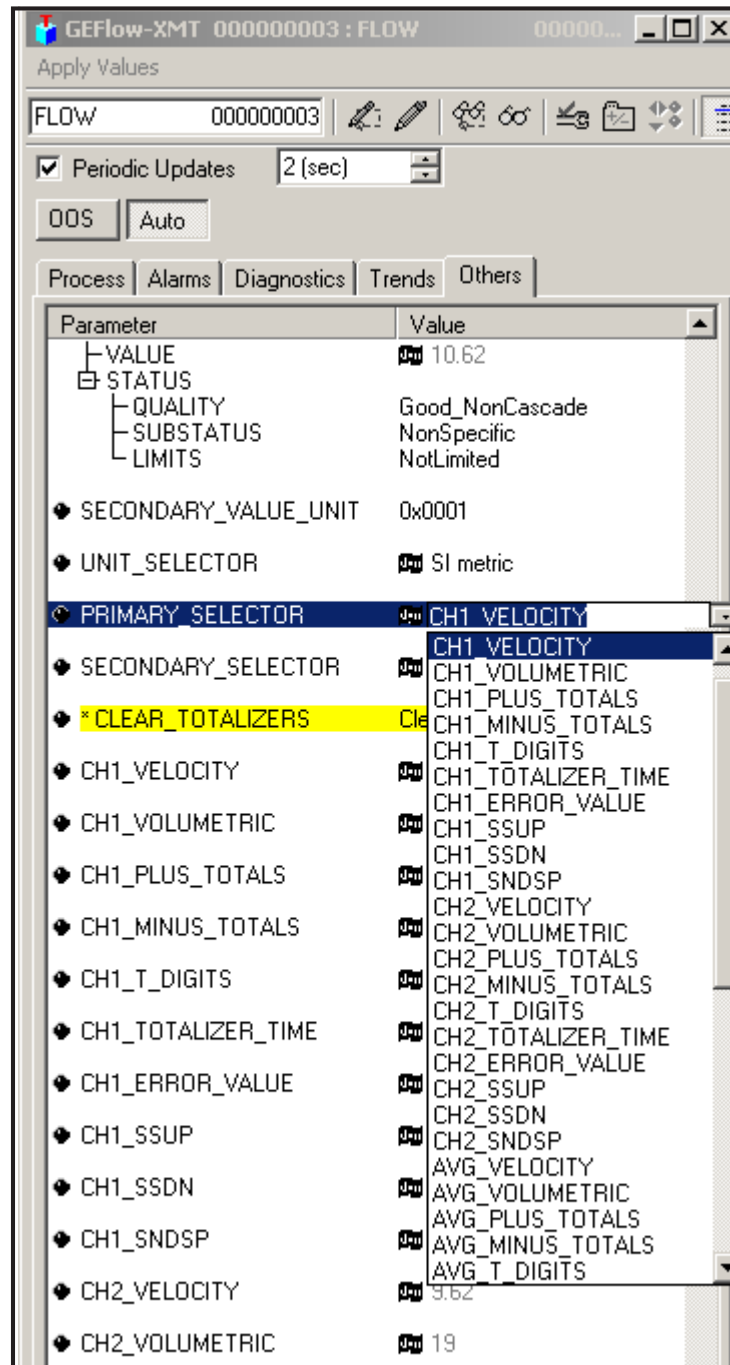

Figure 41: Primary Selector Drop Down List
2. Select the **Others** tab and open the drop down list for the PRIMARY_SELECTOR and SECONDARY_SELECTOR (see Figure 41 on page 119).
3. Choose the unit from the list (see Figure 41 on page 119).